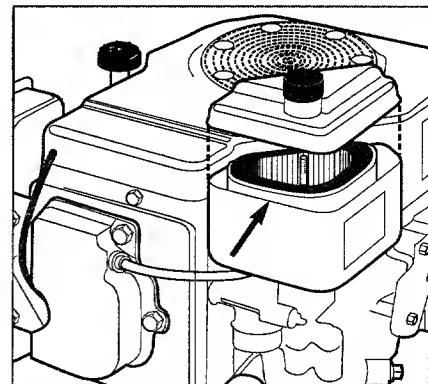

Figure 5-8: 12.5HP / 14HP Kohler engine dual-element air cleaner.
Kohler engines have a dual element air cleaner design—an outer foam pre-cleaner and an inner paper cartridge element. Refer to Figure 5-8 to see the components. Check the air cleaner daily or before starting the engine.
1. Remove the air cleaner cover retaining knob, the external cover, and the paper element with surrounding foam pre-cleaner. See Figure 5-8.
8. Reassemble all components as shown in Figure 5-8. Remember to carefully read the engine manufacturer's literature for additional procedures and requirements.